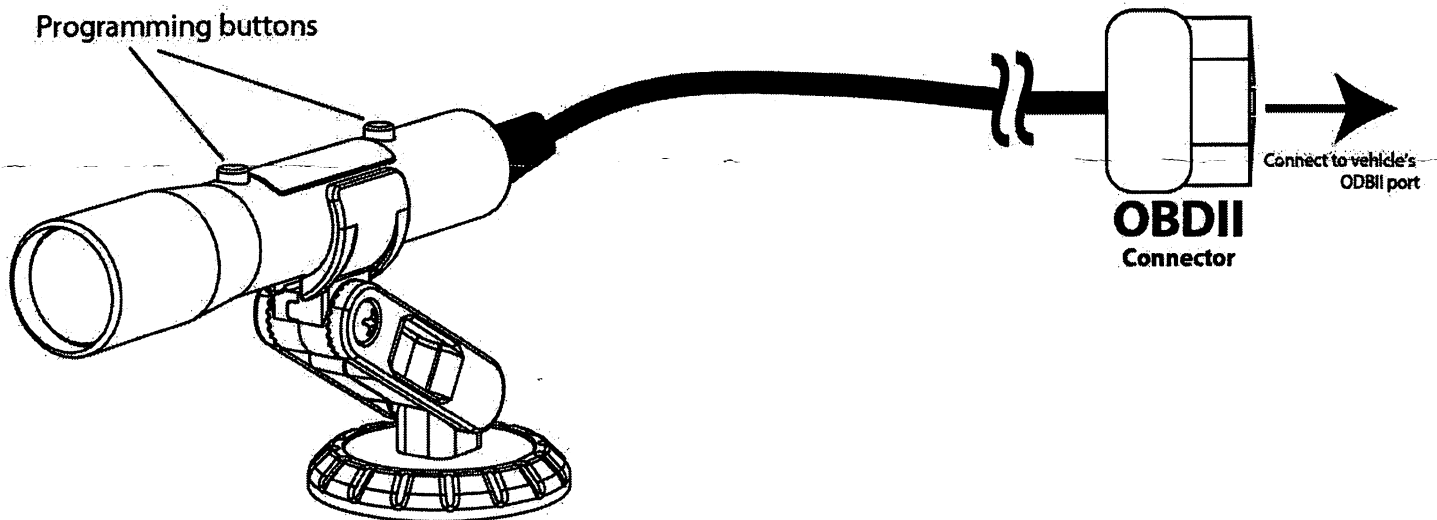

Figure 1
2. Mount the Sniper shift light for easy viewing and in an area that will allow access to the programming buttons (see **Figure 1**).